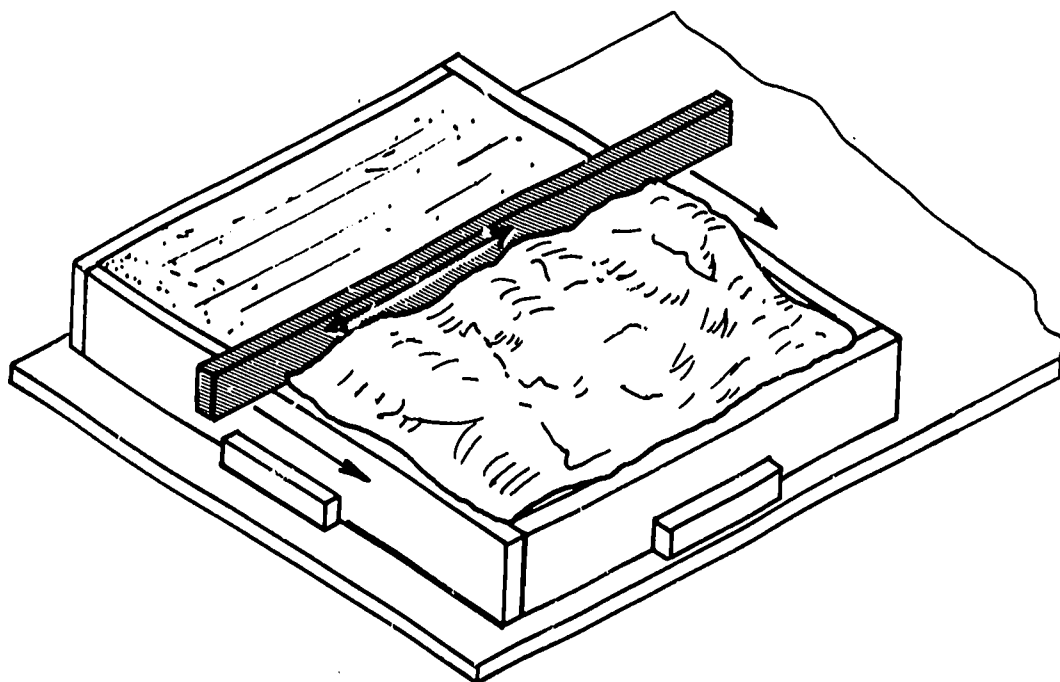

Fig. 41-2. Screeding Concrete
11. Screed the concrete, working it down to a flat surface. Work the screed back and forth as you move it toward the end of the form. See Fig. 41-2.